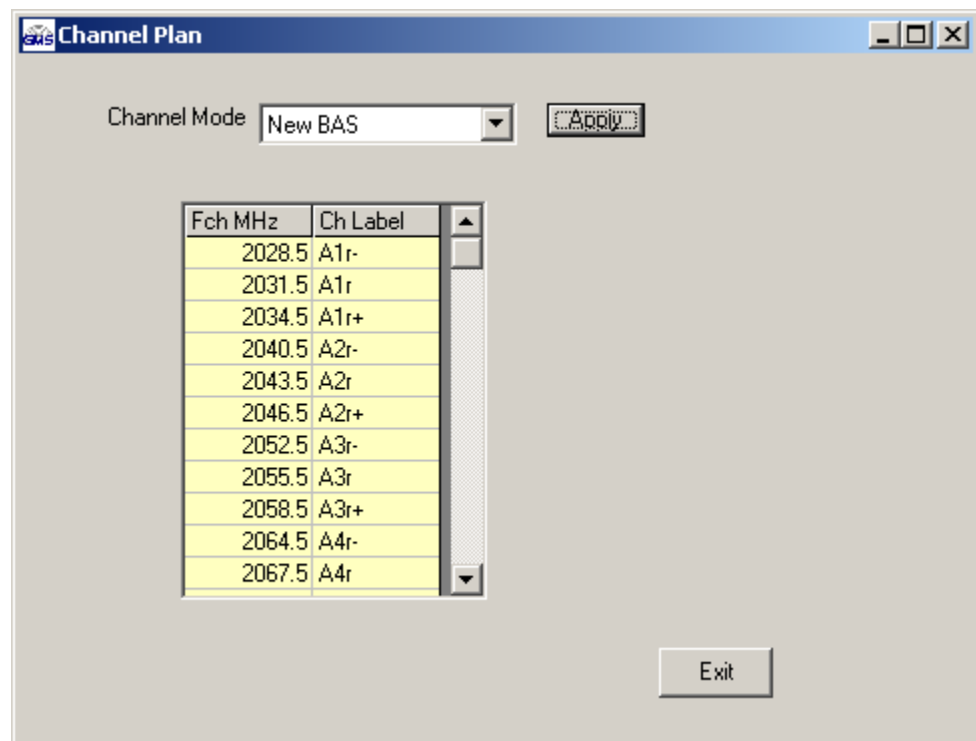

Figure 7 – Channel Plan Opening Screen
- **“Load Group” Button:** The data structure of the M2T is organized into “Groups” of selected fields. A Group contains the following fields (refer to Figure 7 above): **Carrier Mode, Modulation Mode, COFDM Bandwidth, COFDM mode, Guard Interval, Modulation FEC, Video Frame Size, Video Frame Rate and Input Mode.**
The Channel Plan default channel mode is NEW BAS frequencies as shown in the opening screen in Figure 7. The RF channel mode selected here is also reflected in the 'RF Freq (MHz)' text box on the front page of the GMS configurator and also displayed on the LCD display under the main menu under the 'TX RF FREQ' display.